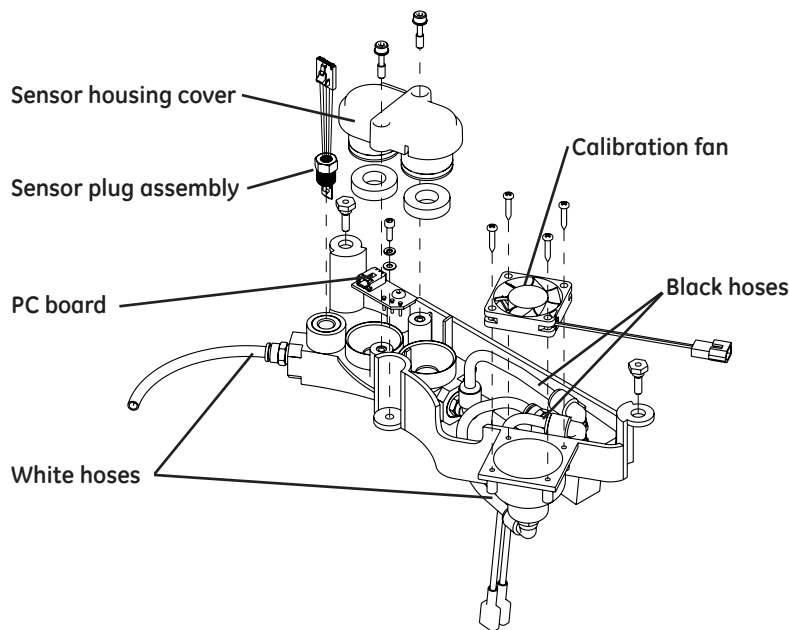

Figure 5-16 Sensor Housing
Refer to "Figure 5-16 Sensor Housing".
5. Use a 2.5 mm hex key to remove the M3 screw that secures the center of the sensor housing to the chassis. Refer to "Figure 5-16 Sensor Housing".